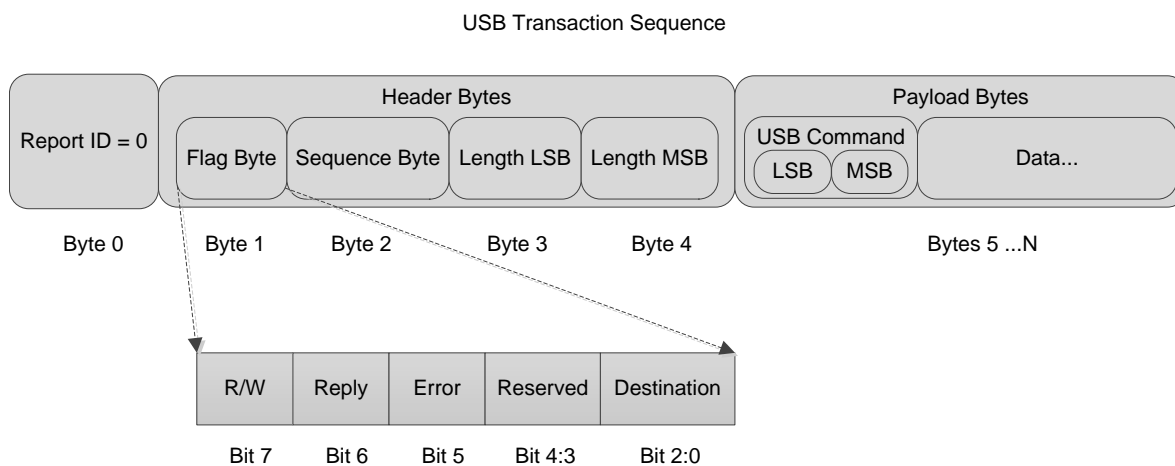

Figure 1-4. USB HID Protocol
The USB 1.1 HID protocol has the structure shown in Figure 1-4. The host must build a stream of bytes that consist of the Report ID, Header, and the payload. The following is a description of these three parts.
- 1) Flag Byte: Shown in Figure 1-4 and described in the Read and Write examples in Section 1.2.2 and Section 1.2.3.